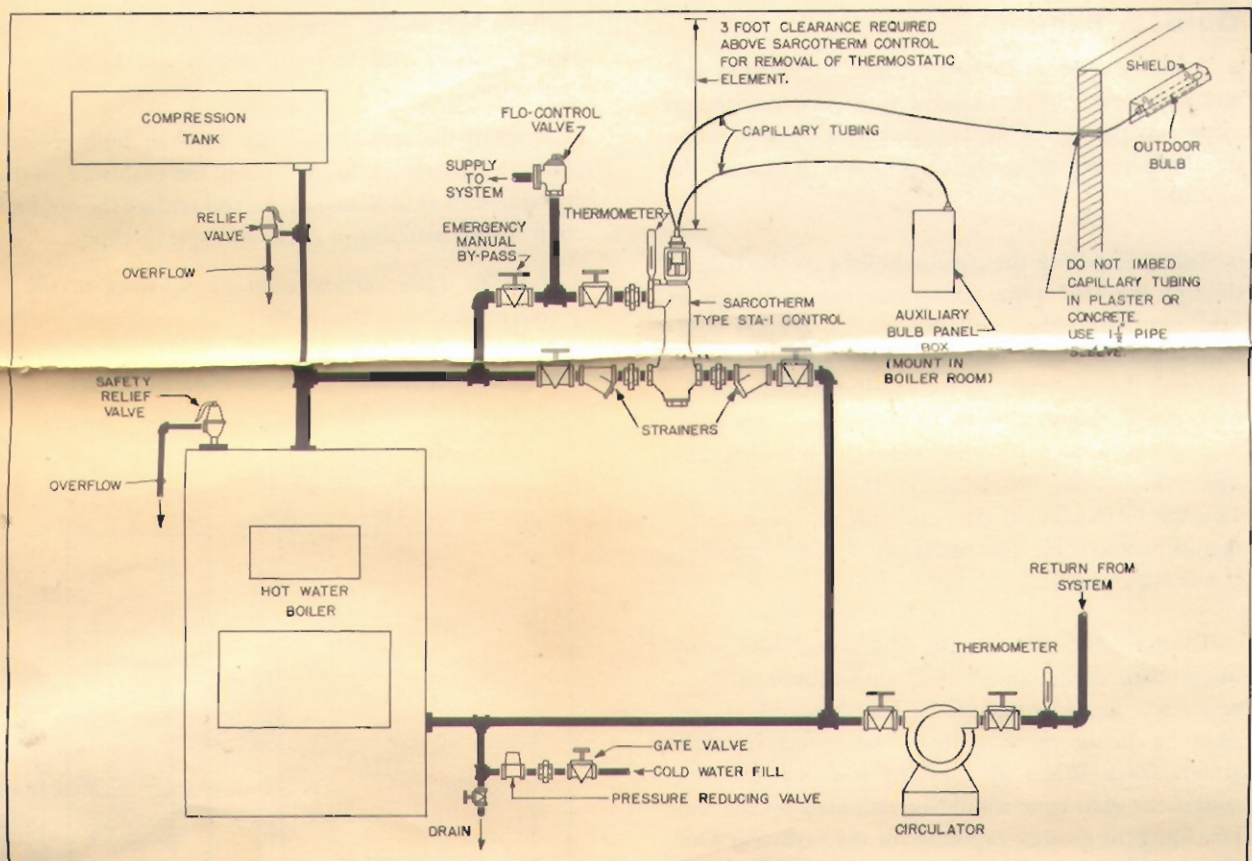
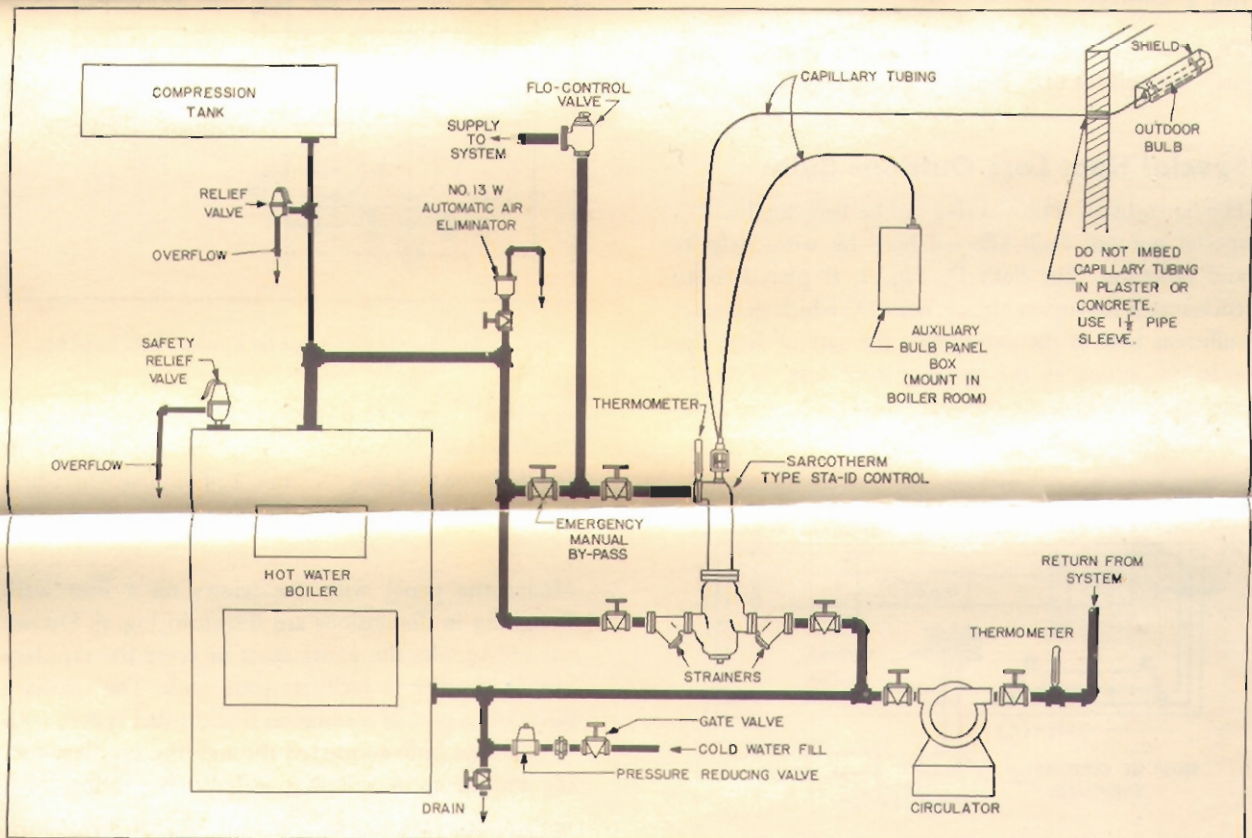

Fig. 3. Typical Sarcotherm Hookup.
Fig. 4. Hookup of Sarcotherm Control for Low Ceiling.
- When connecting the Sarcotherm follow as closely as possible the arrangement shown in Fig. 3. In laying out the piping, sufficient room must be allowed between the top of the Sarcotherm valve and the ceiling to allow for the removal of the inside thermostat if necessary. This clearance should be not less than 3 feet, as indicated in the typical layout drawing, Fig. 3. If the ceiling is too low to allow this clearance with the hookup as shown in Fig. 3, the Sarcotherm control valve may be connected in the manner shown in Fig. 4.
However, when the hookup is made in accordance with Fig. 4, an automatic air eliminator, type 13-W, must be installed to eliminate the air from the loop. Otherwise air will accumulate at this point and retard the circulation throughout the system.
- To allow easy removal of the Sarcotherm valve a manually controlled bypass with isolating valves should be provided, as shown in Figs. 3 and 4. In case of emergency the bypass valve may be opened to supply water to the system directly from the boiler, but when this is done the aquastat on the boiler should be reset to control the boiler water temperature to that required in the heating system. (Normally, the aquastat may be set to give a boiler water temperature approximately 20°F above the highest temperature for which the Sarcotherm is calibrated.) After the emergency period is over and the control system is reinstalled, the aquastat on the boiler should be reset to the correct normal operating temperature.